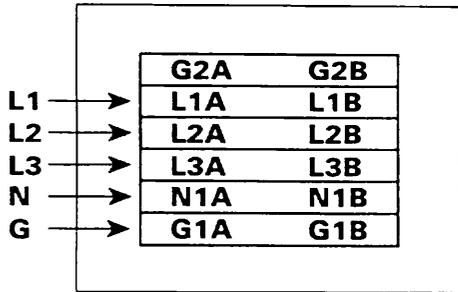
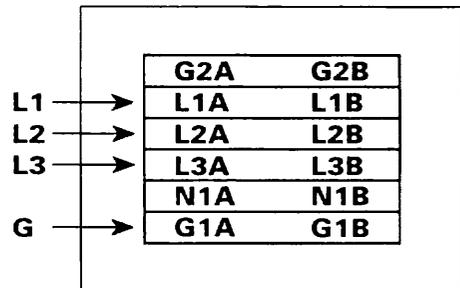

FIGURE 4.2.1 MAIN POWER CONNECTIONS FOR 380/460 VOLT COMPRESSOR
FIGURE 4.2.2 MAIN POWER CONNECTIONS FOR 200/230 VOLT COMPRESSOR
4. Connect the power cable to the terminal strip TB2. (Fig. 4.2.1) for 380/460 volt compressor or Fig. 4.2.2 for 200/230 volt compressor.